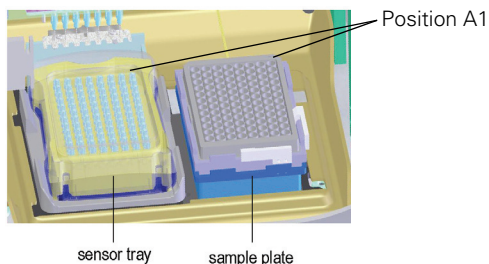

Figure 5.7 Sensor stage (left) and sample stage (right)
2. Place the sensor tray on the sensor stage (left side) so that position A1 is located at the upper right corner (Figure 5.7).